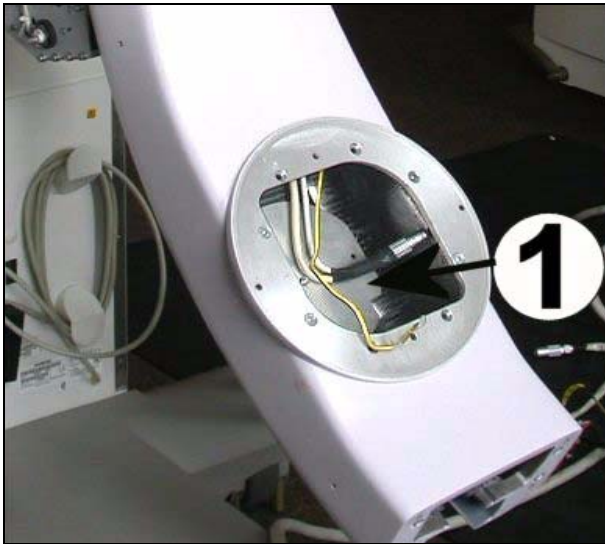
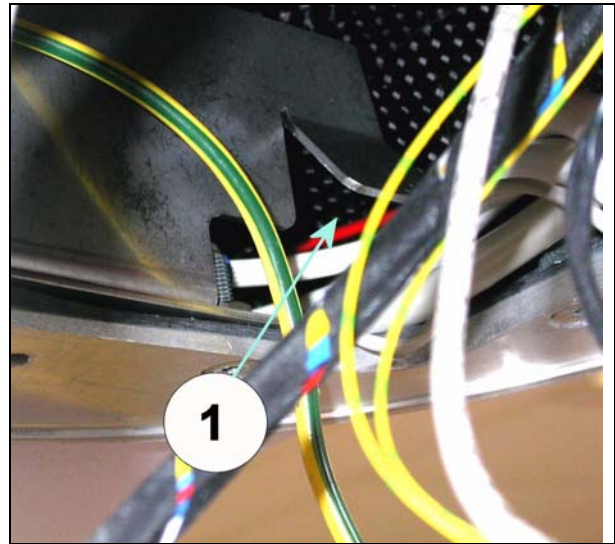

Fig. 19
Fig. 20
- Connect the Lemos plug connector in the C-arm. Insert the plug connector into the C-arm. Run the cable in the C-arm so that it is positioned at the side underneath the metal cover (1/ Fig. 19).
- Lift the X-ray image intensifier, and carefully thread in the cables. Guide the high-voltage cable, the cable E3 and the protective ground wire through the bracket (1/ Fig. 20). Insert the ribbon cable between control section and HV section of the I.I. mini voltage supply, at the side between the metal cover (1/ Fig. 19) and the C-arm.